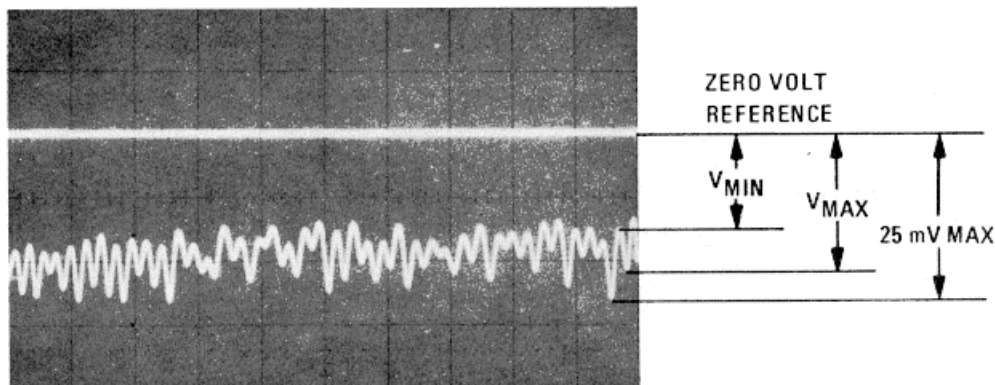

Figure 4-10. Typical Pattern of a swept SWR Measurement
e. Display swept power output trace on oscilloscope (Figure 4-10). Select several points on trace and calculate VMAX/VMIN.
- a. Connect spectrum analyzer as shown in Figure 4-10.